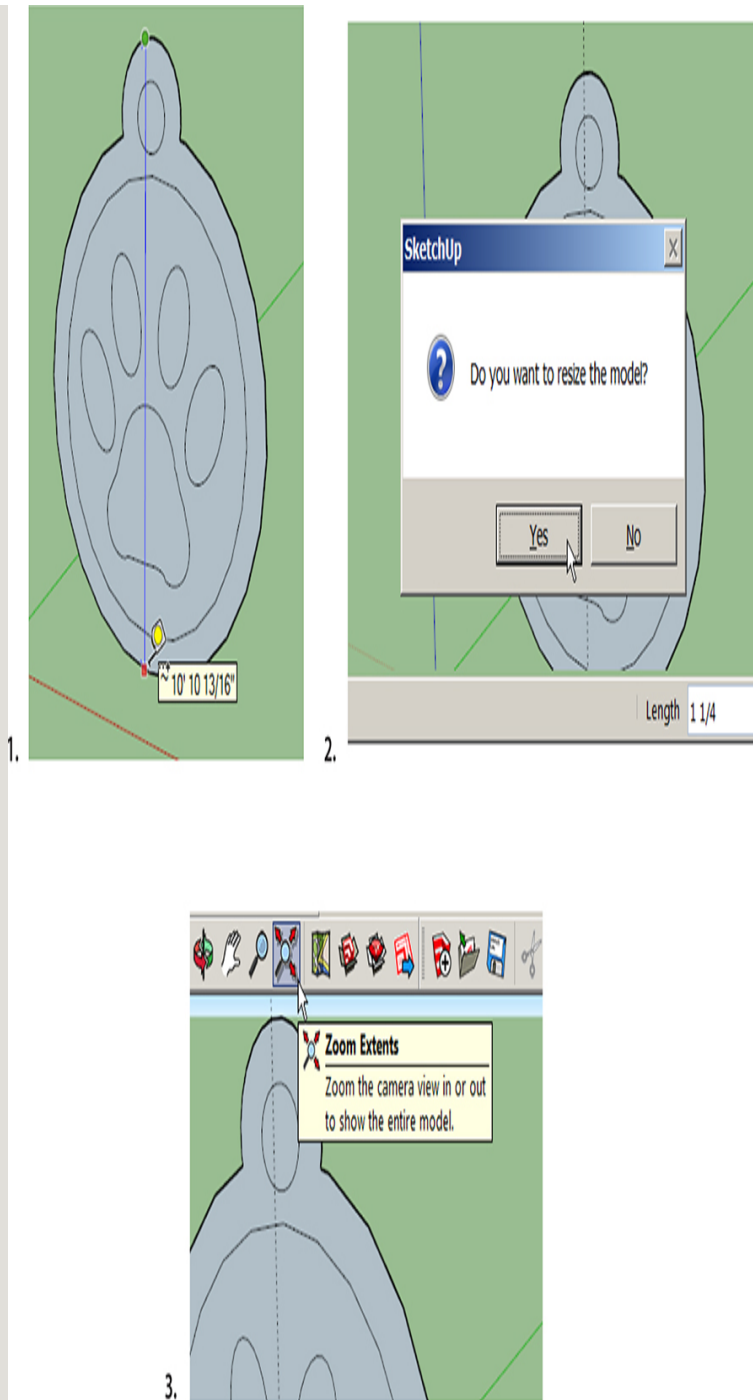

Figure 3-67 Scale the tag down to make it 1 1/4" tall.
8. Scale the tag to an appropriate size (Figure 3-67). Click the Tape Measure on the top and bottom of the tag. You need to click points on the tag; you can't click on empty space. Type **1 1/4** (put a space between the two 1s) to make the tag 1 1/4" tall. Click Yes when prompted, and the tag will rescale. It will become tiny, so click Zoom Extents to fill the screen with it.